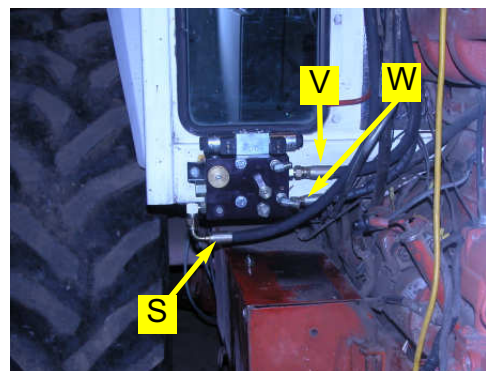

Figure 4a. Installed pressure, tank, and excess flow hoses at block.
- a. Install the provided pressure hose (**S**) between the **P** port of the Automated Steering Block and elbow fitting (**J**) attached to the orbital. (Figure 4a. and 4b.)